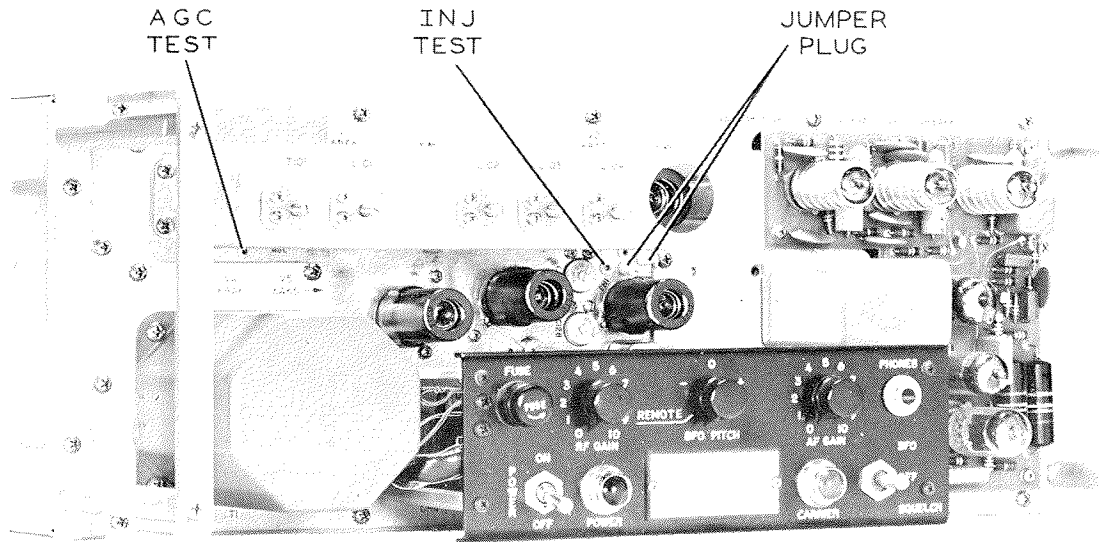

Figure 2-7. Location of Test Jacks and Jumper Plug on 51N-7
f. If the frequency desired is below 14.5 mc, connect the jumper plug shown in figure 2-7 between terminals B and C. If the frequency desired is above 14.5 mc, connect the jumper between terminals A and B.